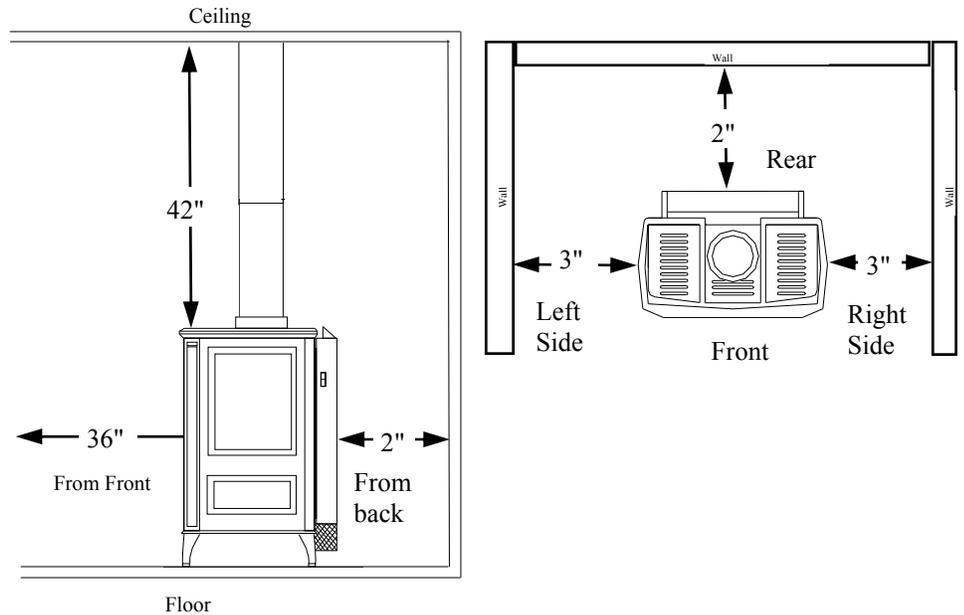

Figure 3– Minimum Clearances for Standard Installation
3. Proper clearances must be maintained, see Figures 3 and 4.
- You must maintain minimum wall and ceiling clearances shown in Figures 3 and 4, page 3.